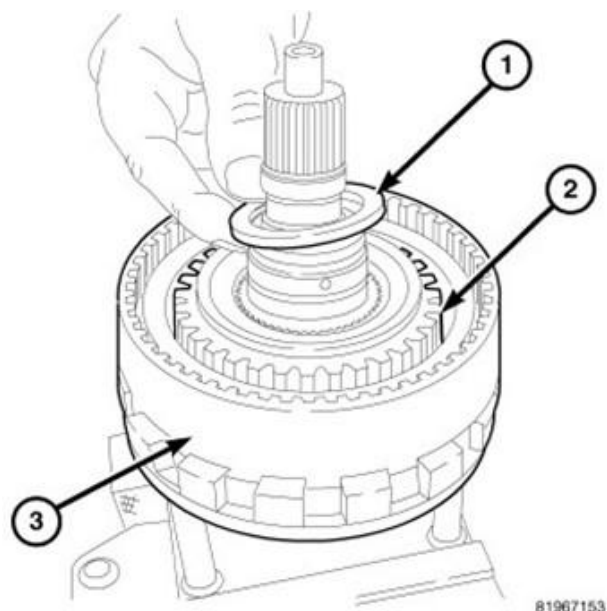

**Figure 36 – Thrust Bearing**
51. Remove the thrust bearing (1) from the overrunning clutch (2) (Figure 36).
64. Install the thrust bearing (1) to the overrunning clutch (2) (Figure 36).